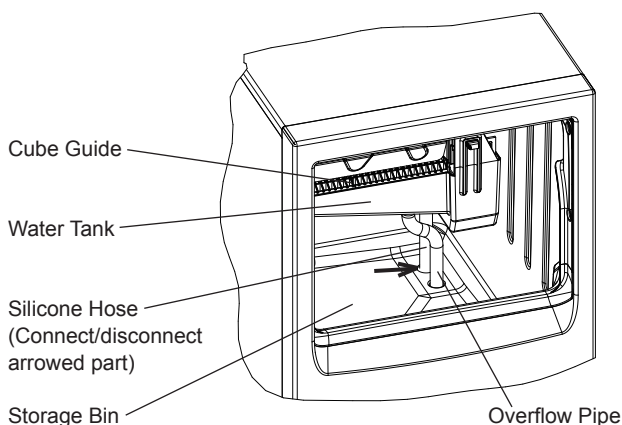

Fig. 5
- 5) Disconnect the silicone hose to drain the water from the water tank. Reconnect the silicone hose back in its correct position after all of the water has drained. See Fig. 5.